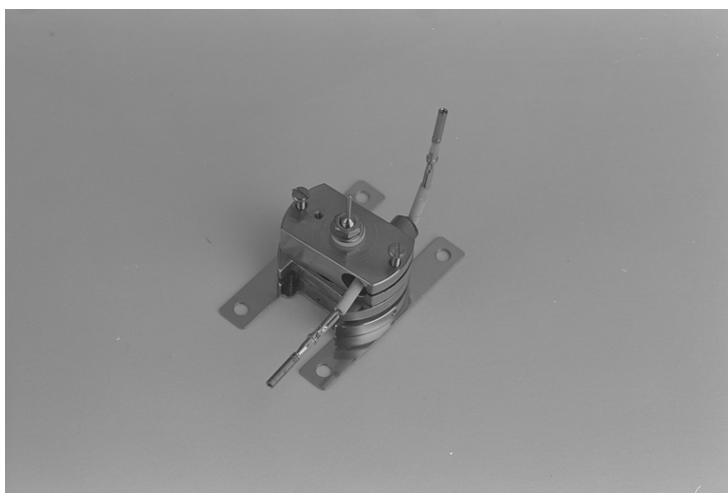

Figure 4-21. Heater with grub screws loosened to allow removal of element
2. Slacken off the two grub screws holding the heater element (only one on CI and combined sources), and then carefully bend down one leg and retract the used element (see Figure 4-21).